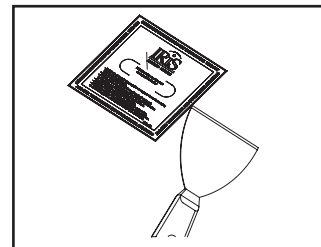

Figure 9.
1. Using a 5" knife, apply joint compound across all four sides. Work across the entire length of the bead with the knife held at a 45° angle, one edge riding the bead and the other on the surface of the ceiling (Figure 9.). The compound should extend onto the ceiling a minimum of 4".